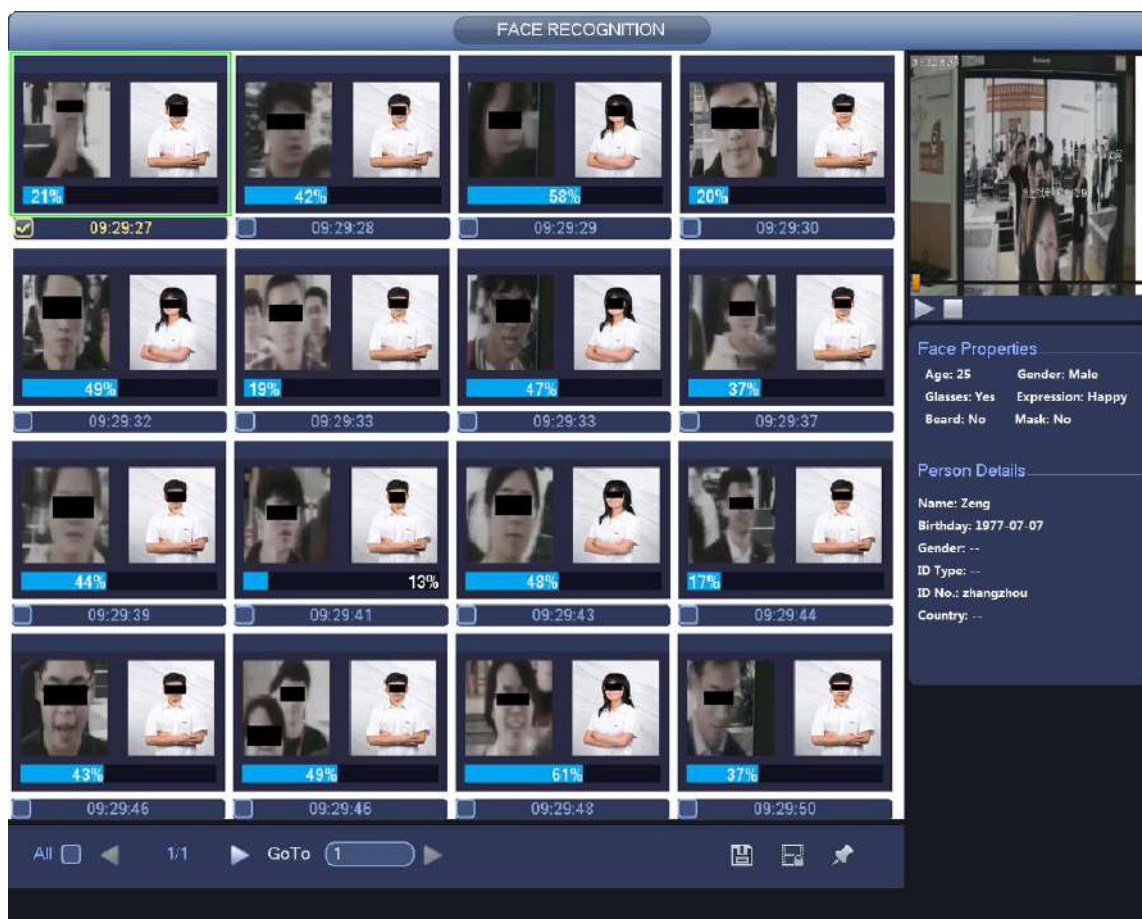

Figure 4-102
- The results are displayed. See Figure 4-102.